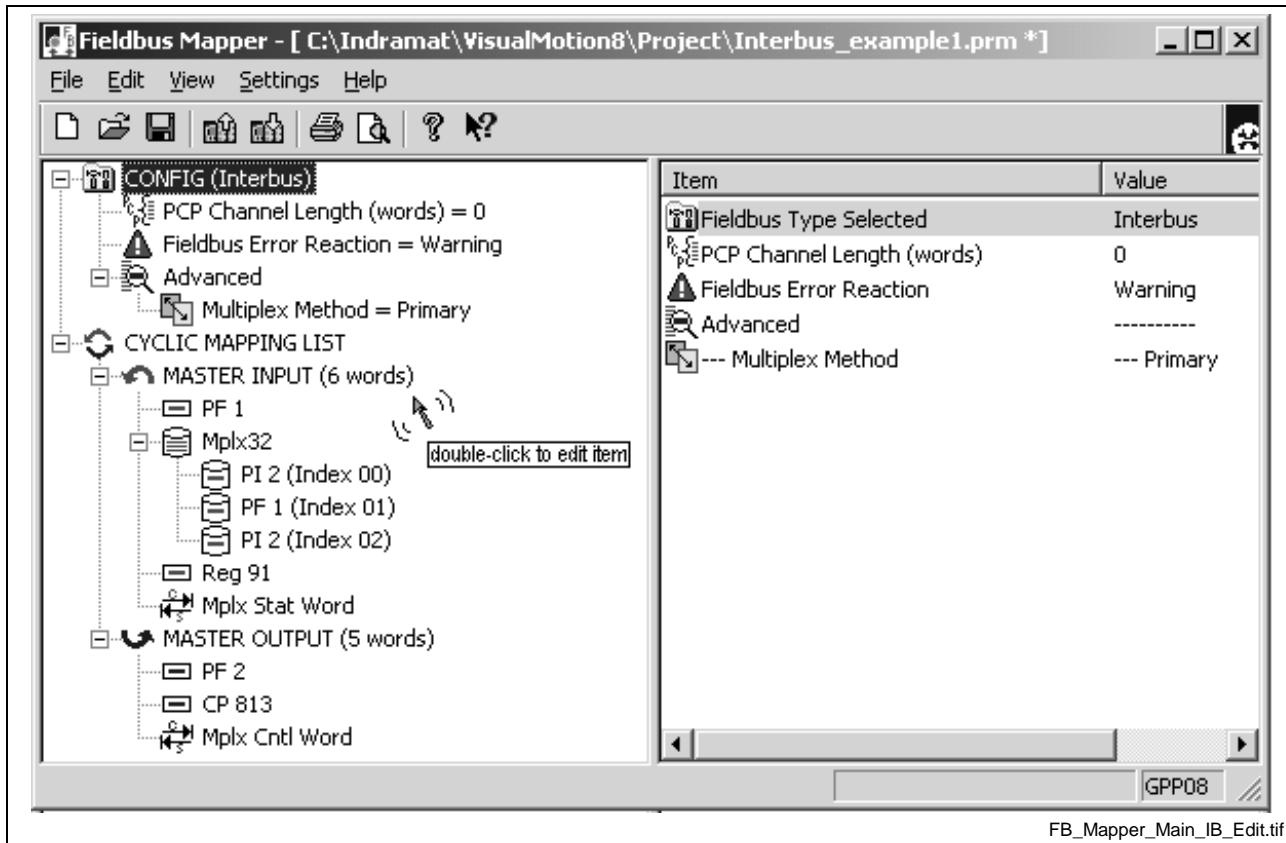

Fig. 8-6: Fieldbus Mapper Main Screen (Complete)
3. Click **Open**. The main Fieldbus Mapper screen appears, which lists the configuration information. Refer to Fig. 8-6.